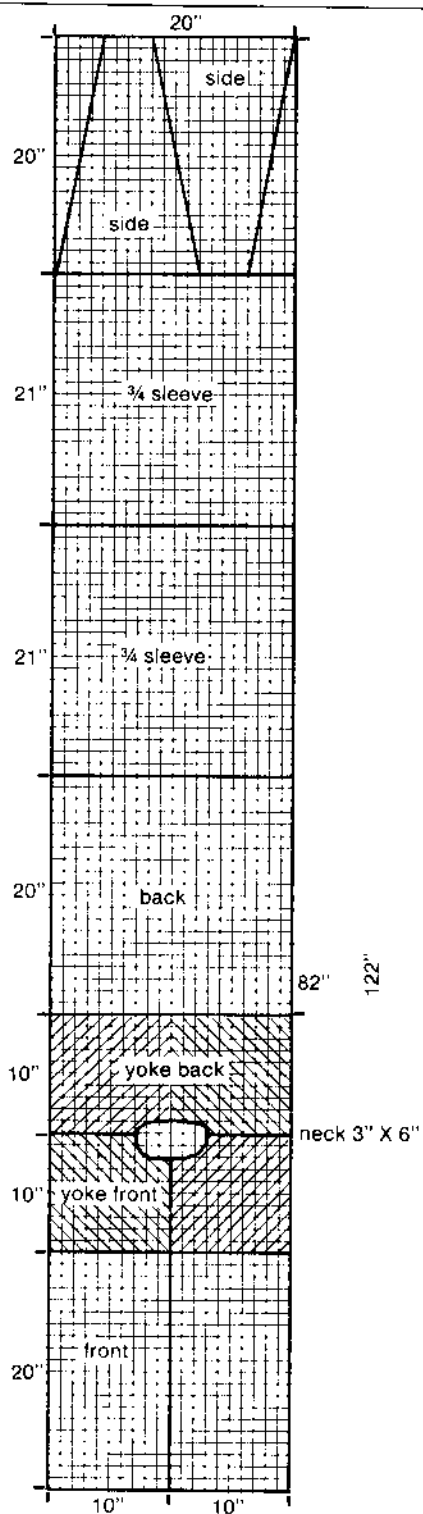

FIGURE 3
**Layout for one garment:** See Fig. 3. Weave each garment according to this layout and separate back, sleeves, and sides by weaving in markers with contrasting yarn.